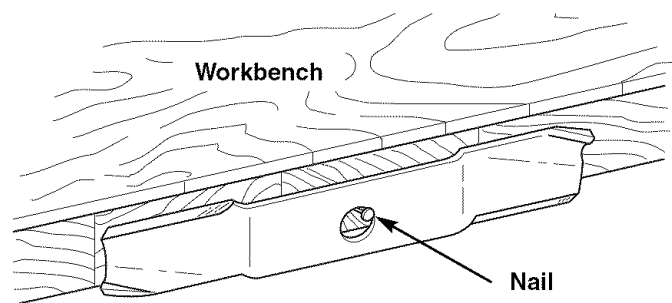

Figure 21. Balancing The Blade
6. Balance the blade as shown in Figure 21. Center the blade’s hole on a nail lubricated with a drop of oil. A balanced blade will remain level. If the blade is not balanced, continue to sharpen the heavy side until it balances.